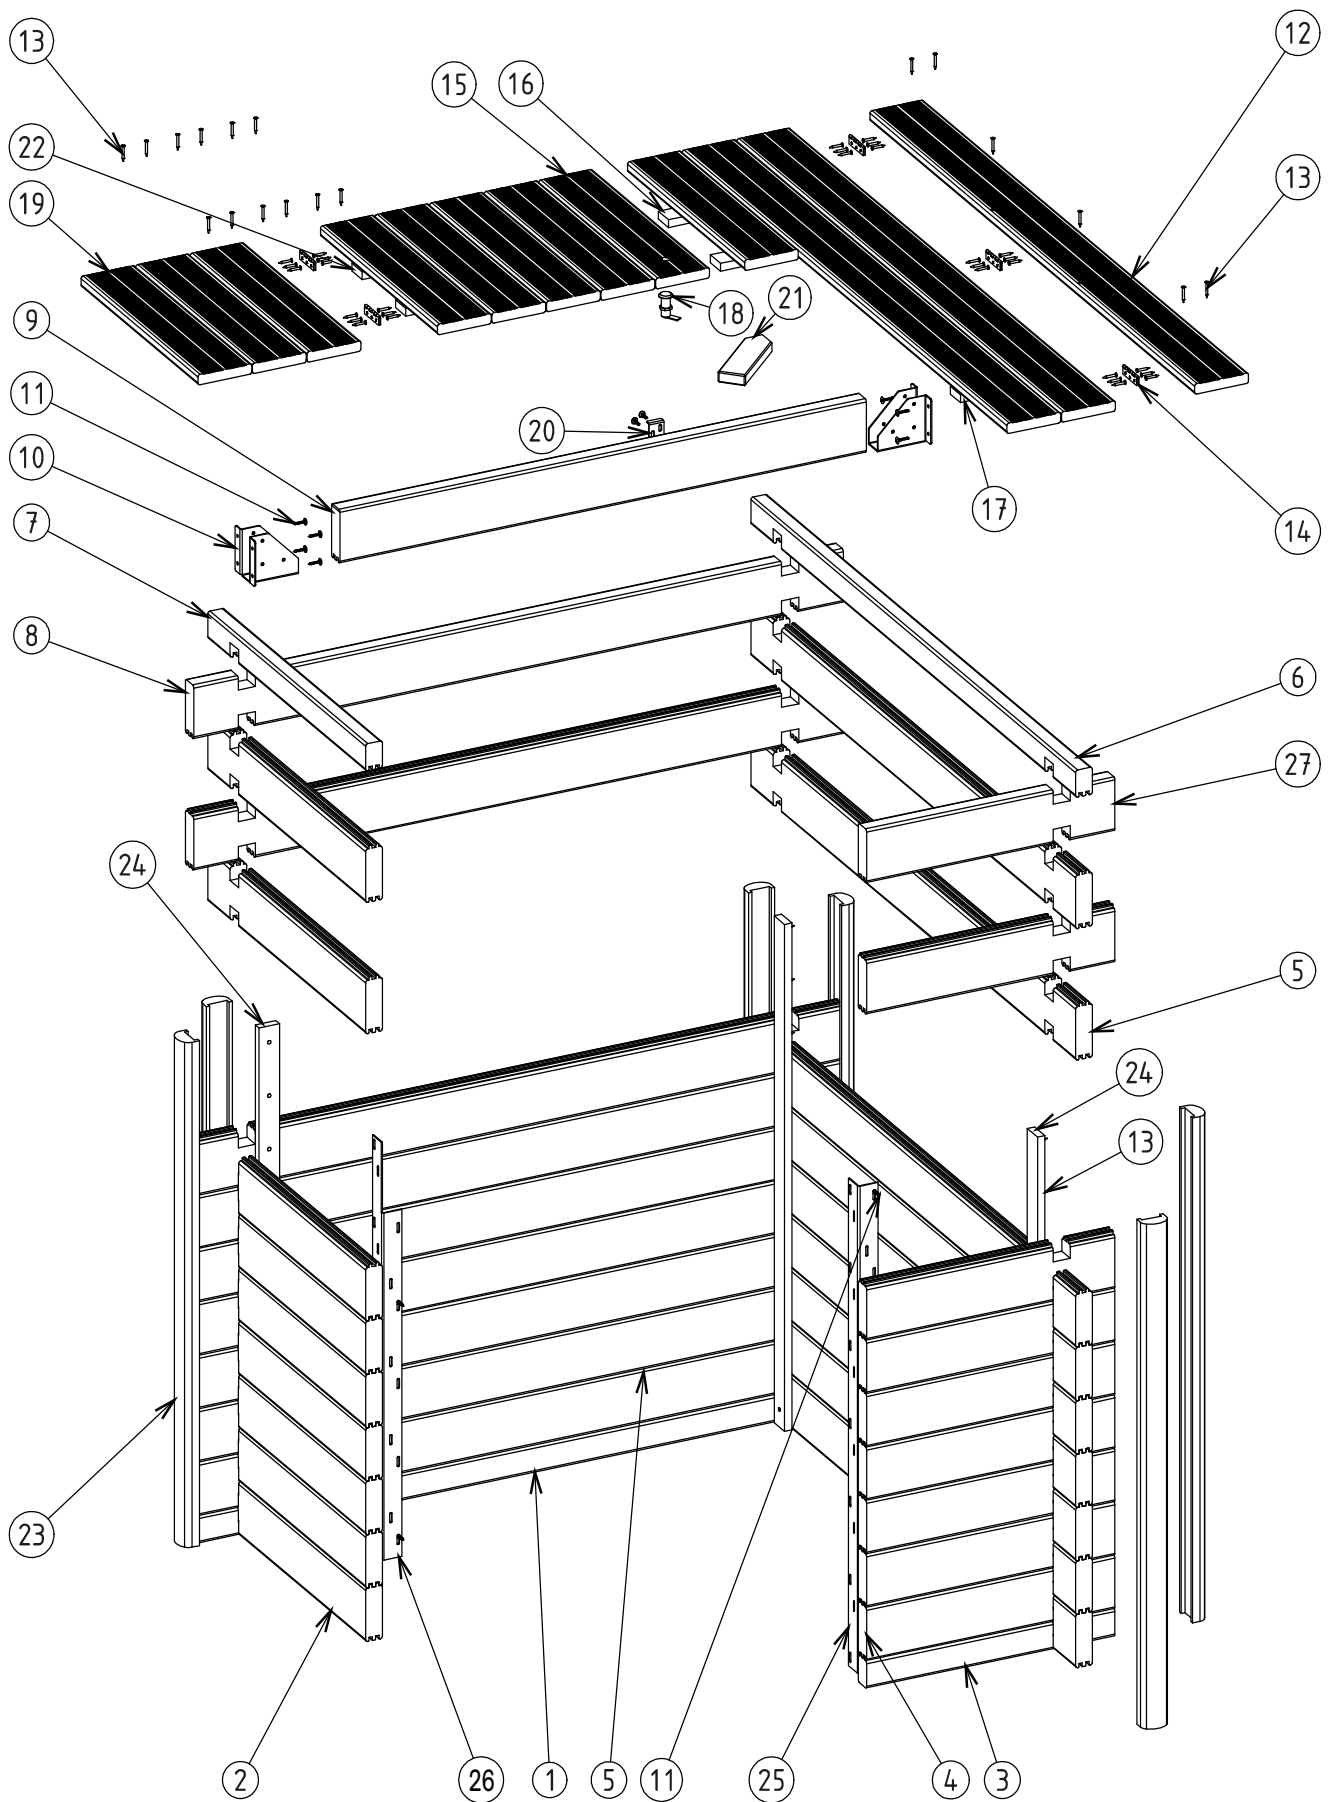
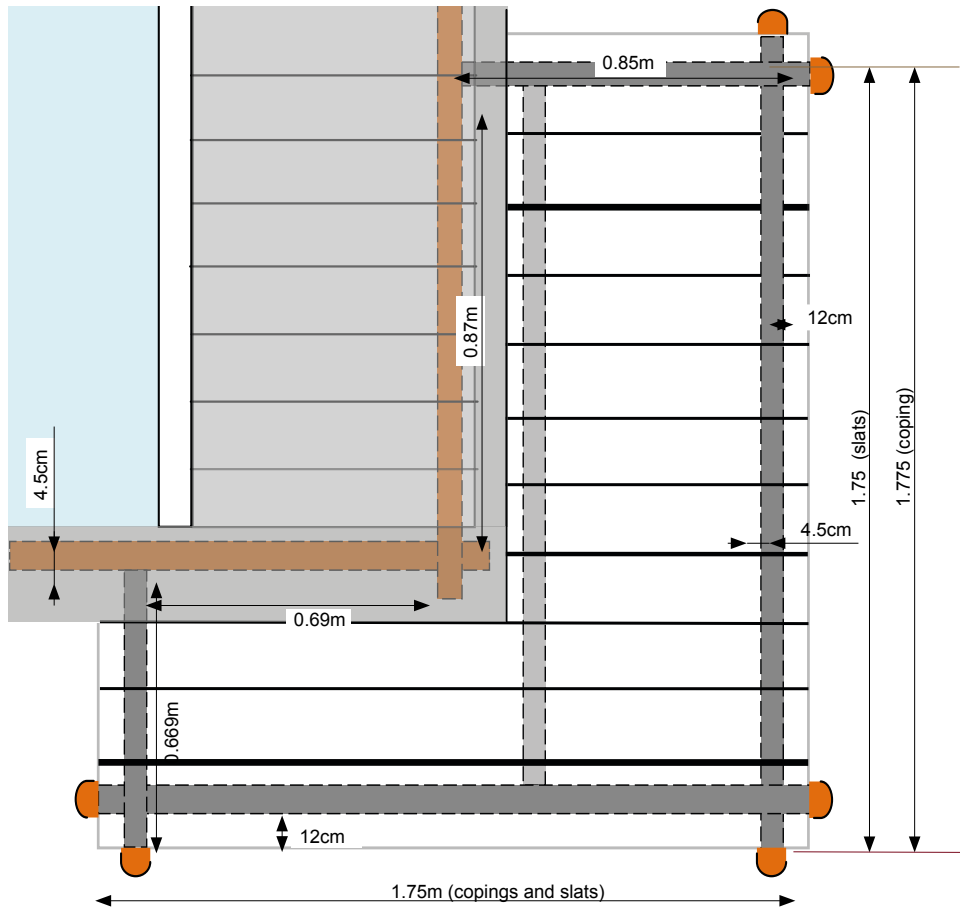
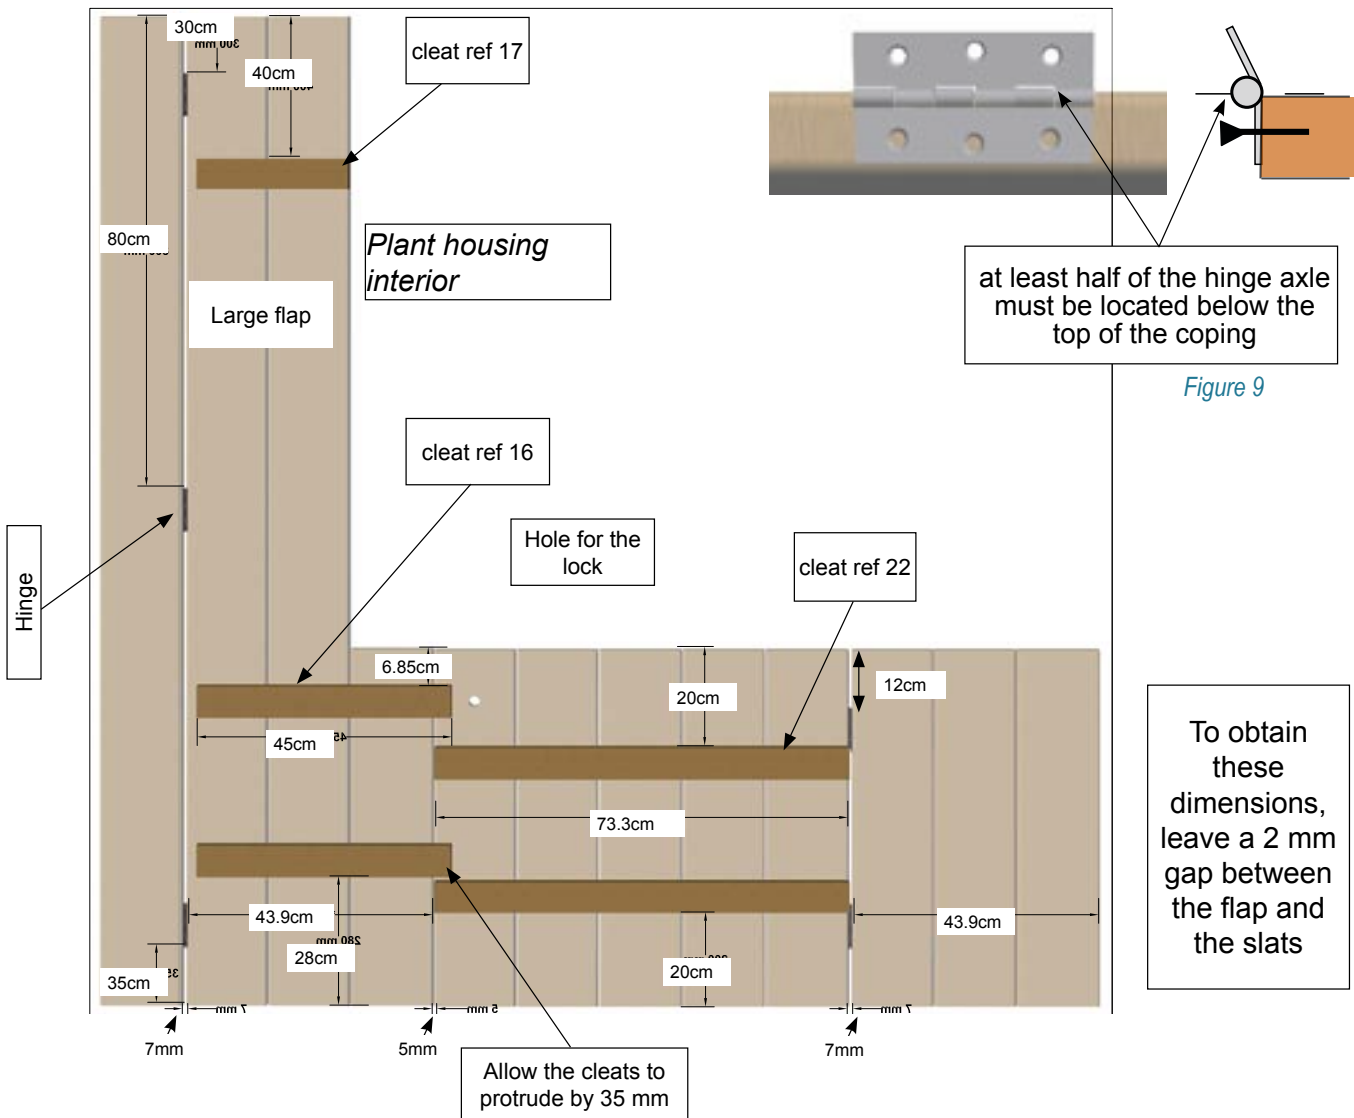

Figure 2
Figure 4
Figure 10 - Assembly of the duckboarding
Assemble the structure exactly where the pool is to be installed because, due to its significant weight, it will not be possible to move the plant housing once it has been built. See the dimensions in figure 4
After assembling the first row of slats on the ground, position the two end slats against the pool exactly where they should be positioned. (see the dimensions in figure 4).
Attach each mounting bracket to the interior, flush with each of the two free ends (see figure 2) using torx screws, 6x30 (18 screws per bracket).
Fasten a cleat (ref 24 of figure 2) in each of the 3 vertical interior corners of the plant housing. Use 30 wood screws 5x40.
Screw each of the two beam support (ref 9 on figure 2) fastening shoes (ref 10 on figure 2) at the following locations using 4 torx screws, 6x30, per shoe :
1.4.5 Fastening the finishing trim to the ends of the wall (ref 23 on figure 2)
To avoid this, replace this part with that enclosed with the plant housing (ref 21 on figure 2), that has a pointed edge.
- Using 3 torx screws, 4x35, per hinge, screw 3 hinges to the edge of a duckboarding slat that is 1.75 m long (ref 12 in figure 2) at the locations indicated in figure 10 (pre-drill the holes where necessary using a 2 mm drill bit) taking care to follow the instructions in figure 9. This coping slat will be mounted on top of the wall at the edge of the housing (see figure 4).
- Using 3 torx screws, 4x35, per hinge, screw 2 hinges to the edge of a duckboarding slat that is 63 cm long (ref 19 in figure 2) at the locations indicated in figure 10.
1. The small flap is comprised of 5 coping slats 63 cm long, it includes the slat that features a hole for mounting the lock (ref 15 figure 2): fasten two cleats, length 73 cm, (ref 22 in figure 2) under the coping slats, taking care to respect the dimensions and 2 mm gap between the copings shown in figure 10.
- a. Fasten two 45 cm cleats (ref 16 in figure 2) under the 3 coping slats, allow the cleats to extend 3.5 cm beyond the slats on the side of the 63 cm coping slat. Respect the dimensions and 2 mm gap between copings shown in figure 10;
4. Position the small moving flap on the housing, taking care to respect the 2 mm gaps indicated in figure 10.